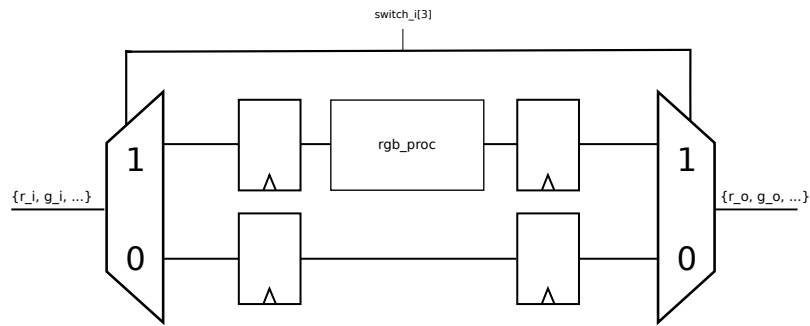

Figure 3: Schematic of the buffer and bypass functionality in `rgb_proc_wrap`.
1. It provides two independent signal paths, one through your `rgb_proc` and one that bypasses it. As shown in Figure 3, the bypass is controlled by the `enable_i` input, which is connected to switch 3 (the leftmost one on the board). In other words, you have to enable switch 3 to test your `rgb_proc`; if your module makes the output unreadable, you can always bypass it by disabling switch 3. This way, you do not have to unplug the FPGA from the monitor for (most) faults that corrupt the output.